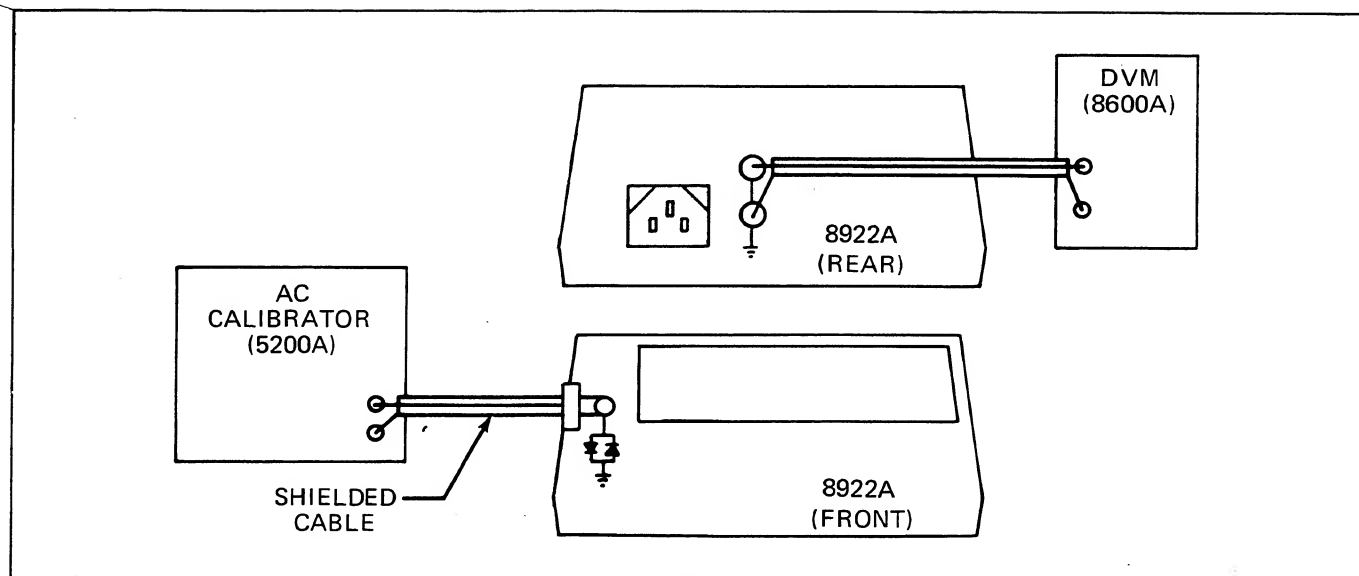

Figure 4-6. Linear Analog Output Check
1. Set up the calibration test equipment as shown in Figure 4-6.